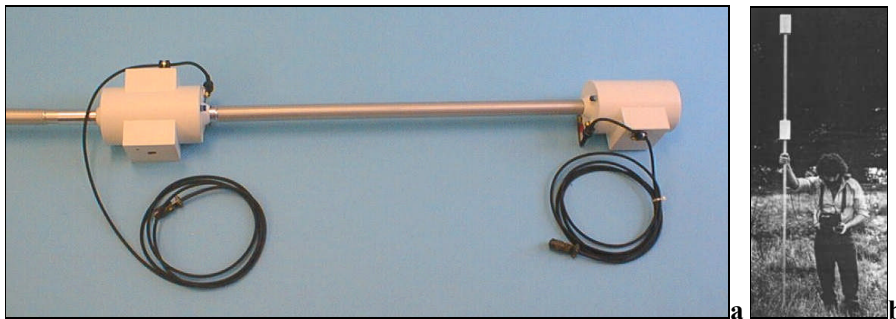

Figure 14. Completed gradiometer staff.
- 5) The separation between gradiometer sensors is determined by the lengths and number of the staff sections linking the sensors. The minimum separation will always include one of the threaded adaptors and the top (threaded) staff section as shown in Figure 14 a. Typical sensor separation will be two staff sections (4ft.). Note that Figure 14a shows only one staff section separating the sensors. Normally, two staff sections will support the bottom sensor so that the top sensor is at 8 ft and the lower sensor at 4 ft. An alternative configuration is shown in Figure 14b where three staff sections support the lower sensor. With any gradiometer configuration it is best to hold the staff at arms length when measuring the gradient. This will prevent the lower sensor from coming too close to the console and better isolate it from the magnetic effects of the system circuitry and batteries.